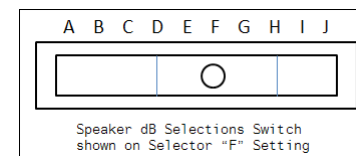

Figure 3: Speaker Selection Switch
- Using the slide switch shown in Figure 3, select voltage and wattage as shown in Table 4. Each letter corresponds to a position of the switch located on the printed circuit board.